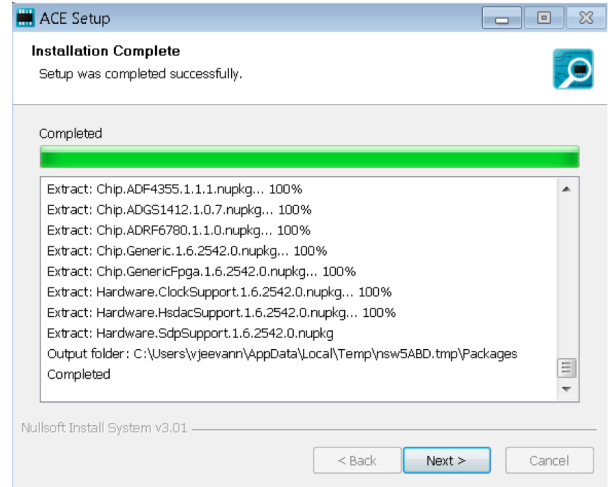

Figure 10. SDP-H1 Drivers Installation—Completing the Installation
- When the installation is complete, click **Next >** (see Figure 10) and then click **Finish** to complete the installation process.